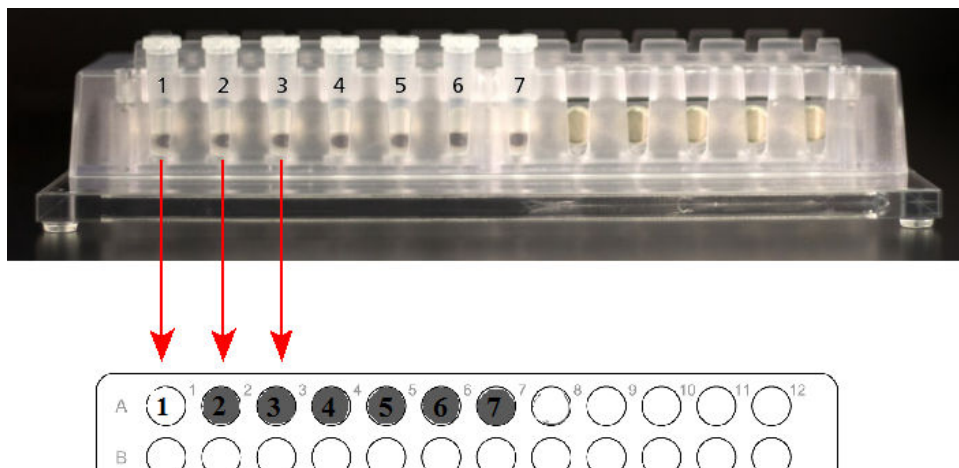

Figure 12 Purified sample transfer to fresh plate.
7. Transfer 25 μL of eluted sample to correct well on new 96-well plate (Figure 12).